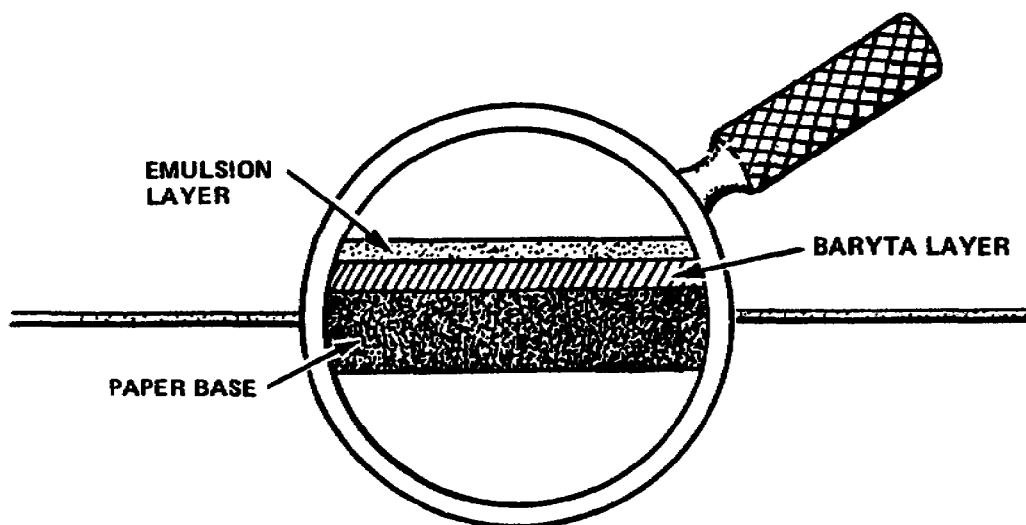

Figure 1-12. Cross section of a sheet of photographic printing paper
a. Photographic print papers (fig 1-12) are composed of the following layers:
- (1) A paper base
- (2) A baryta layer
- (3) An emulsion
(1) Base. The base must be chemically pure to ensure that it will not interfere with the chemical processes to which the emulsion is subjected. Accordingly, the paper is an ideal support for sensitized emulsions because it reflects light and is flexible, economical and durable. Paper is available with a single, medium or double weight base.
(2) Baryta layer. Although paper has a high degree of natural reflectivity, the quality of a photographic print can be increased if the reflectivity is increased. This is accomplished by adding to the paper a gelatin layer containing baryta crystals (fig 1-12).
(3) Emulsion. The emulsion layer, which contains minute silver halides suspended in a gelatin medium is thin. Printing paper emulsions need only reproduce the tonal range of a negative, while film emulsions must have the capability of interpreting brightness, shadows, colors, and related details of a given scene or object. Accordingly, printing paper emulsions are of a much simpler structure than film emulsions.